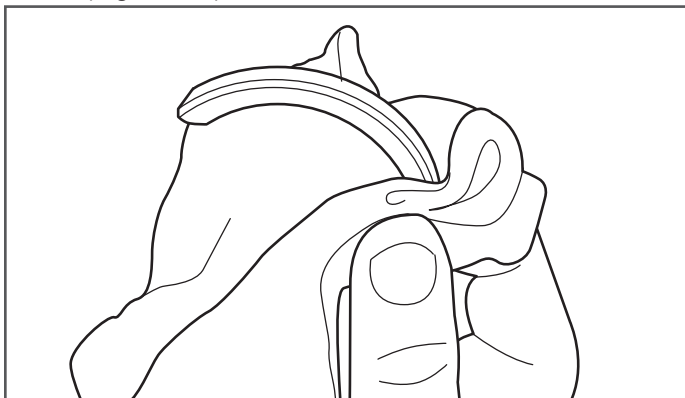

Figure 9-6
6. Wipe the split rings off and inspect for any visible defect (Figure 9-6).